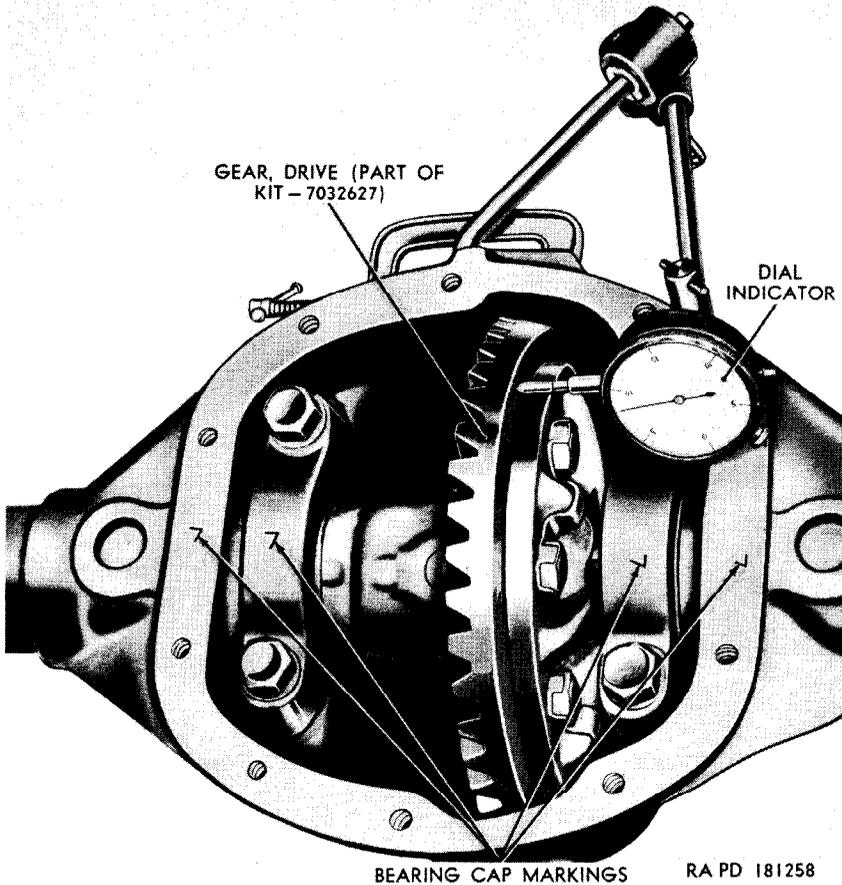

Figure 122. Checking front axle differential drive gear runout.
c. Check Drive Gear Runout. Assemble dial indicator on housing so that indicator contact point is resting on flat side of drive gear (fig. 122). Turn drive gear by hand and observe reading on dial indicator. A total indicator reading in excess of 0.003 inch indicates a warped or nicked differential case or an improperly installed drive gear. In either case, remove differential assembly from housing and check surface of differential case and drive gear for chips or nicks. Remove nicks with a fine stone. Check flange on differential case for warpage, by positioning a piece of metal, known to be true, around various points on the flange. If flange of differential case is warped, replace it. Install differential assembly in housing and recheck drive gear runout.